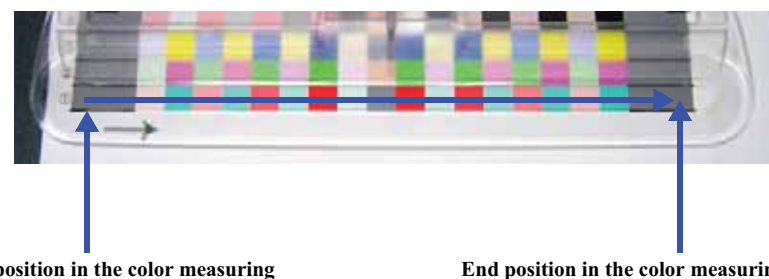

Figure 5-53. Setting the Calibrator/Color Measuring Position
1. Set the calibrator with its measuring part matched with measuring start position (gray part) as shown in Figure 5-53.